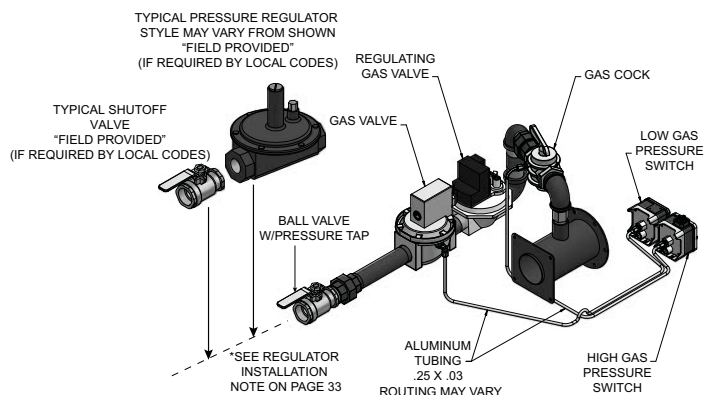

Figure 3-3A_PB/PF 502 - 1302 F9 High & Low Gas Pressure Switches
3. Figures 3-3A, B, and C on page 33 show piping connections for high and low gas pressure switches for respective Power-fin models.